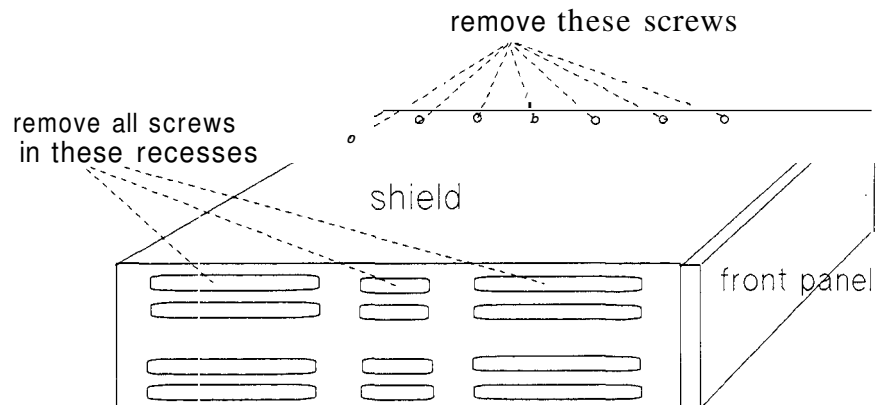

Figure 5-5. Shield securing screws
2. Removing the seven screws located in the upper channel of the upper left frame strut, see Figure 5-5.